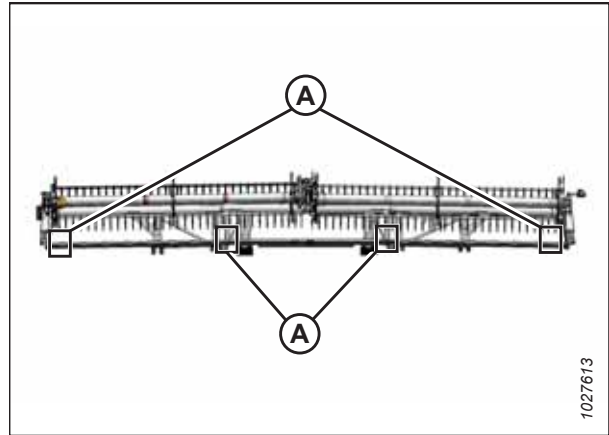

Figure 6.29: FlexDraper® Measurement Locations – Double Reel
- Double-reel headers: Figure 6.29, page 272